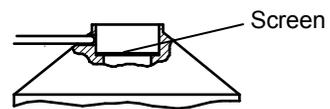

Figure 33 • Screen Installation
- Place a sample screen into the sample cup (see Figure 33).